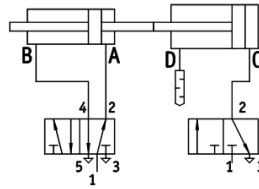

fig 4
### Compressed air connection, fig 4 + 5
1. Remove threaded stopper (1) on cylinder (2) and refit on parallel connection.
3. Connect pneumatic hoses as per diagram; fig 4.